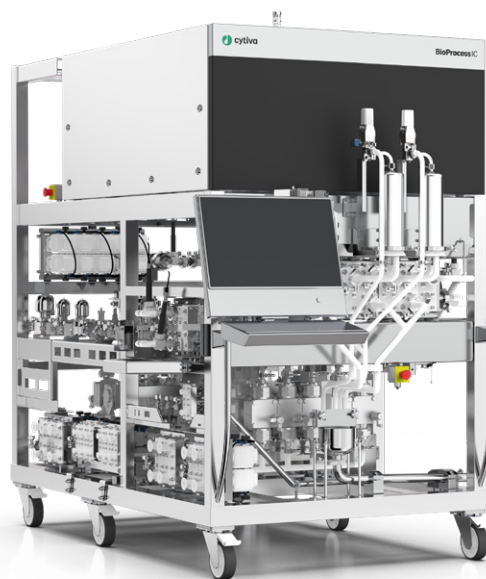

Fig 1. BioProcess IC system for inline buffer preparation.
The BioProcess™ inline conditioning (IC) system (Fig 1) is a buffer management system for inline buffer preparation using concentrated single component stock solutions of acid, base, salt, and water for injection (WFI). The use of concentrates will significantly reduce buffer volumes, saving both floor space and tank volumes. In addition, many different buffers can be prepared from the same set of concentrates, streamlining buffer preparation even further. For accuracy in formulation and consistency between preparations it is possible to select different feedback modes featuring the built-in dynamic control functionality.